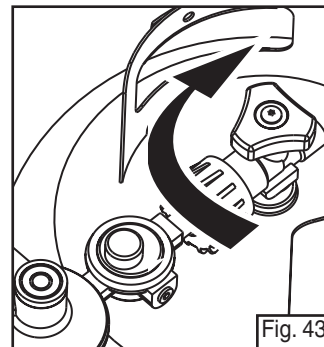

Fig. 43
- Turn off fuel supply on both L.P. gas cylinders. (Fig. 43)